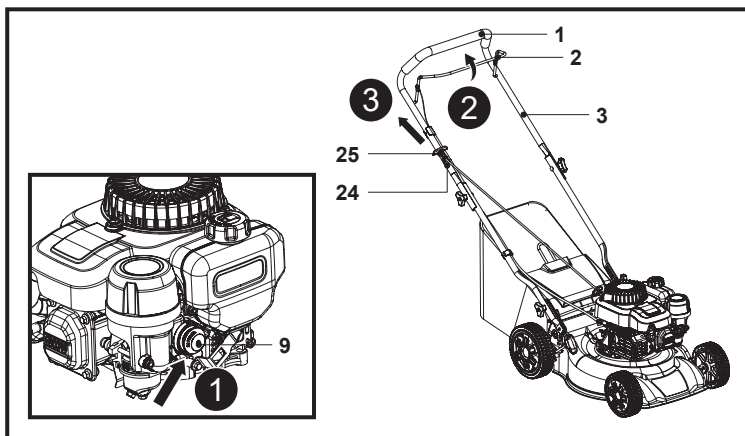

Fig. 14
1. Press the primer (9) 3 times if the engine is cold (Fig. 14, step 1). You can go directly to the next step if the engine is warm.
2. Stand behind the grip handle (1).
3. Pull back the brake lever (2) and hold it against the grip handle (1) (Fig. 14, step 2).
4. Rest the recoil starter handle (25) onto the hook (24) located on the right-hand side of the upper handle bar (3).
5. Pull the recoil starter handle (25) lightly until you feel resistance then pull it rapidly. Do it repeatedly until the engine starts (Fig. 14, step 3).